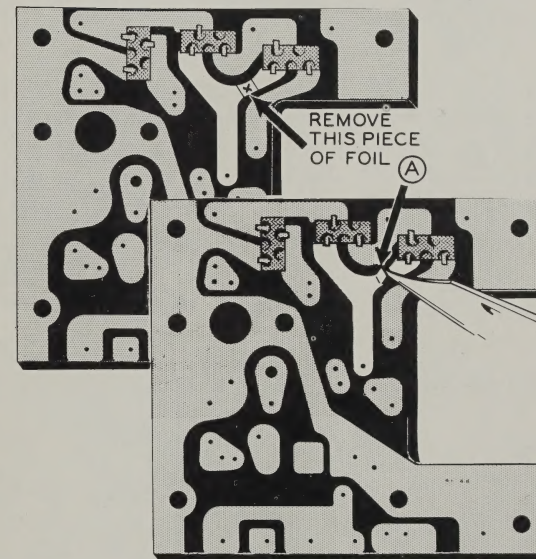

Figure 3A
- () Referring to Figure 3A, make two cuts in the circuit board foil at point A, using a sharp knife tip. Now remove the small piece of foil between the two cuts.